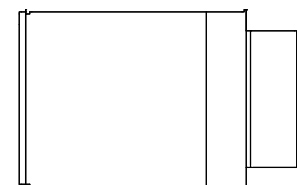

Figure 57 - Adjustable length, INSTALLATION STEP F
- Installation steps** (see **Figure 57**):
- Move down the sliding section of the outer wall to the flange of the female coupling and install the locking band as described in section A: Chimney and fitting joint assembly. See **Figure 57**.